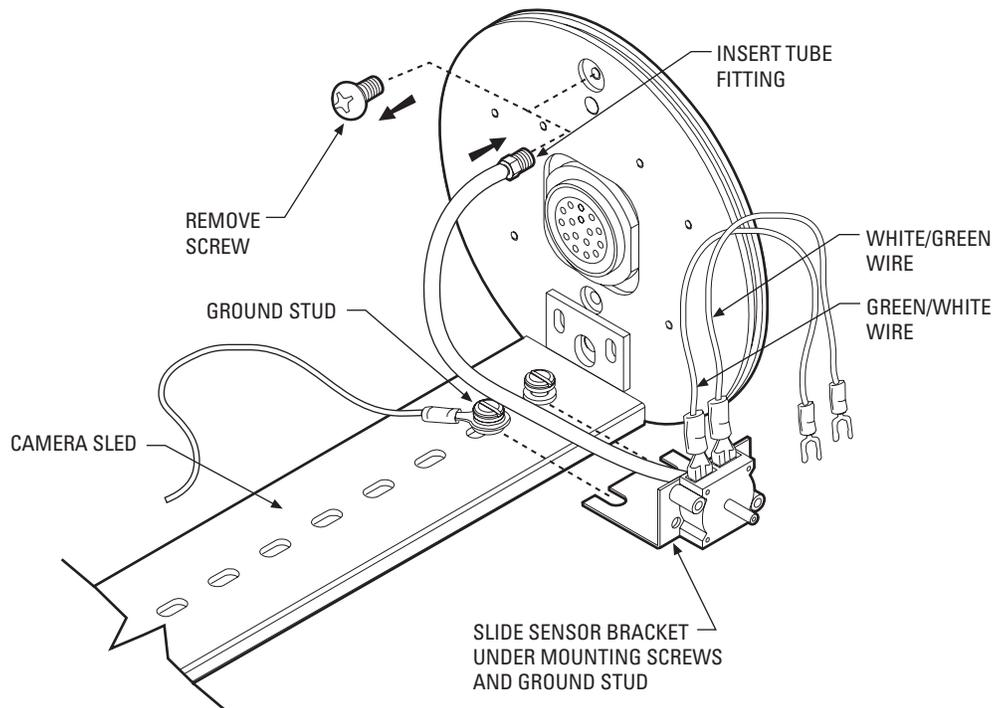
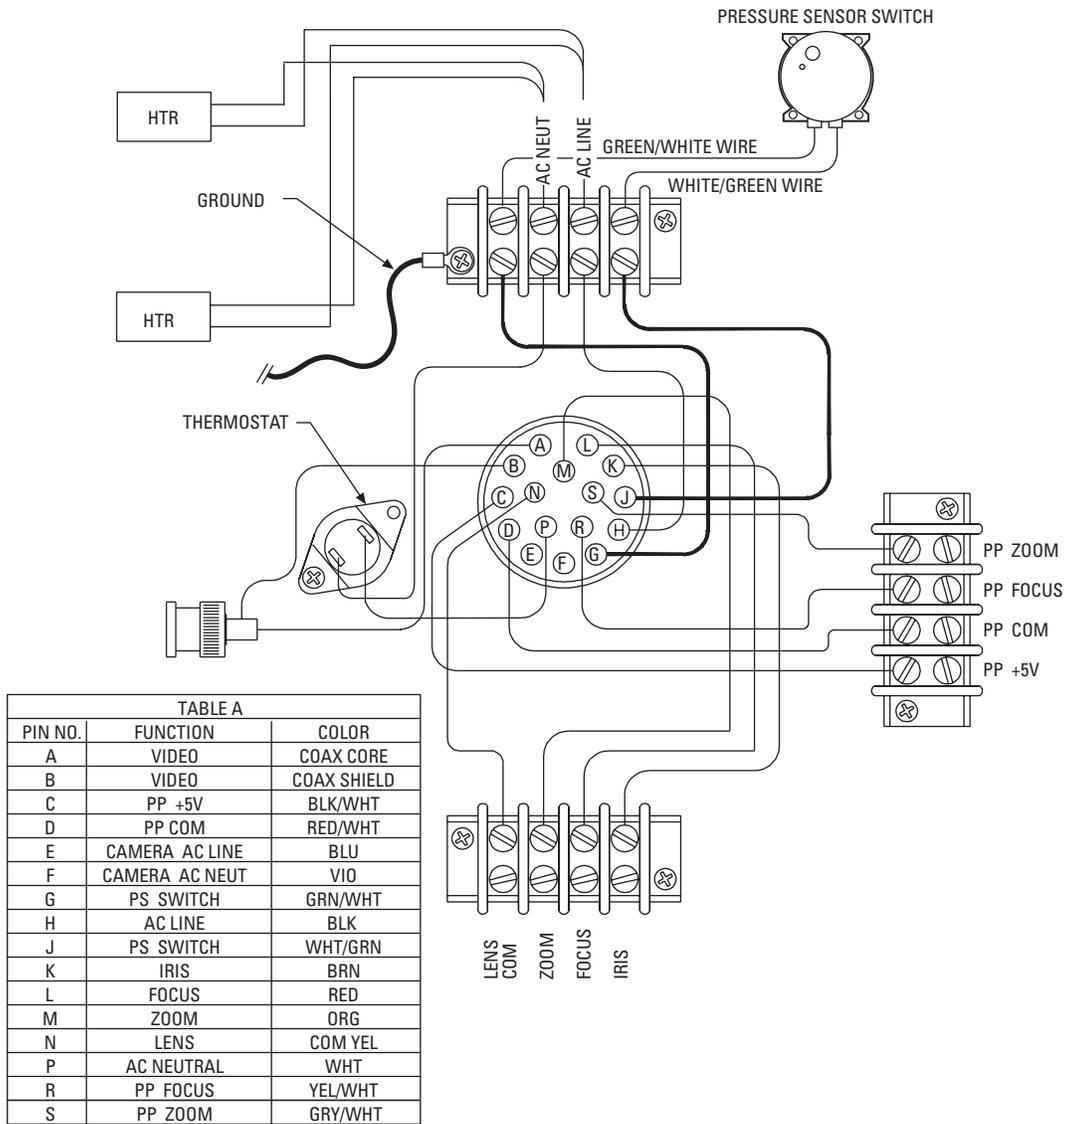

Figure 2. EH8100 Series Enclosure - Rear Plate, Inside View
Figure 3. EH8100 Series Enclosure - Wiring Diagram
1. Remove the screw located inside the top portion of the enclosure's rear plate (refer to Figure 2). Insert the pressure sensor tube fitting in the hole.
2. Loosen the camera sled mounting screws (refer to Figure 2). Slide the sensor bracket under the mounting screws and ground lug. Tighten the screws.
3. Connect the wire leads (refer to Figure 2 and Figure 3):
| C1445M-A | 5/96 | Updated to include corrections to reference callouts in Section 3.4. Updated Figure 3. All changes in response to ECO# 95-220 and 96-131. |
| C1445M-B | 5/96 | Revised to include updated Figures 2 and 4. |